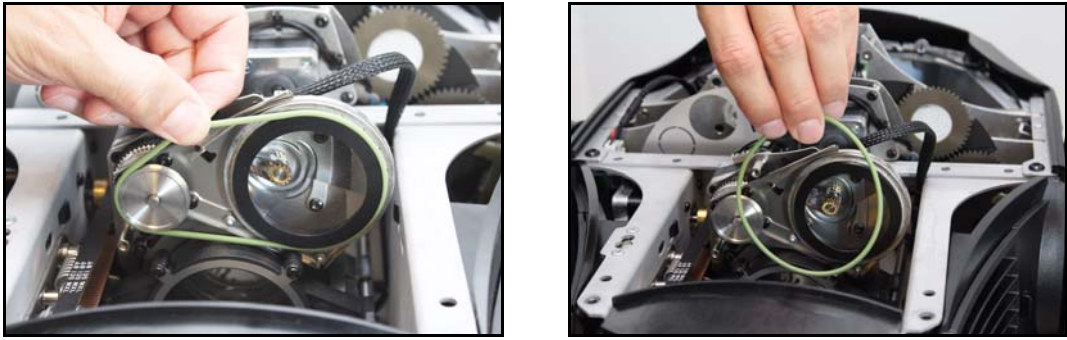

Figure 18: Removing the prism drivebelt
2. See Figure 18. Lift the prism drivebelt off its pulleys. Do not stretch the drivebelt any more than necessary.